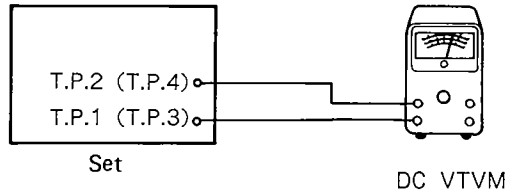

Figure 13
(1) Idling Adjustment (Figure 13)